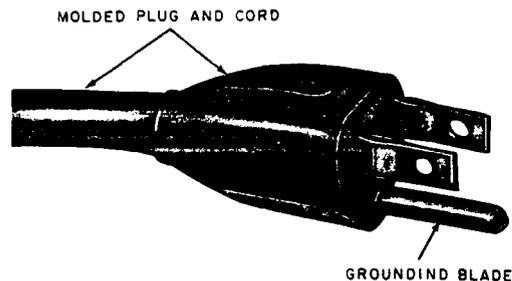

Fig. 1--Standard 3-Blade Plug
- 3.01 All electric power tools requiring grounding as covered in 1.04 should be equipped with a 3-conductor cord which terminates in a standard 3-blade plug (Fig. 1).